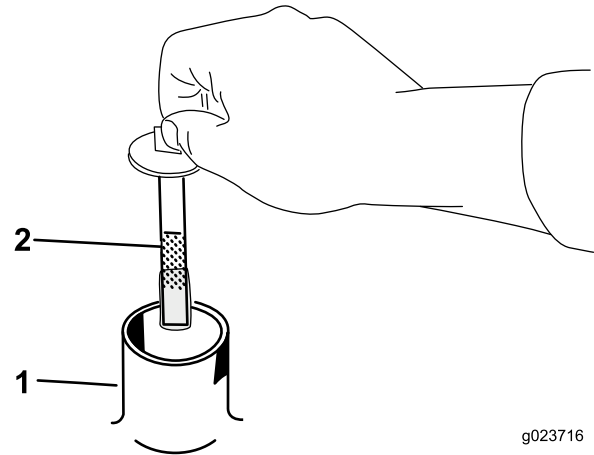

Figure 37
5. Remove the cap from the filler neck and check the fluid level on the dipstick (Figure 37).